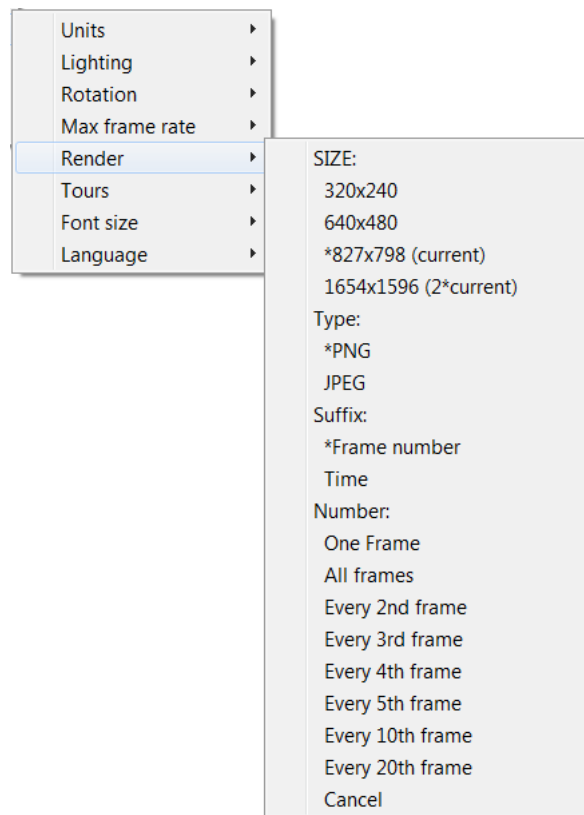

Figure B.8: Render Menu.
The *Render* menu, illustrated in Fig. B.8, allows one to create PNG or JPEG image files of the currently displayed scene. The graphics library, GD 2.0.15, was used to create the rendered versions. GD 1.0 is documented in reference [16, Appendix 4]. GD 2.0.7 now creates images using *full color* allowing for more realistic scene representations eliminating the color banding that occurred with the previous version because of the limited number (256) of colors used to represent images. Due to patent disputes, GD 2.0.15 has dropped support for the GIF file format and uses JPEG or PNG instead.